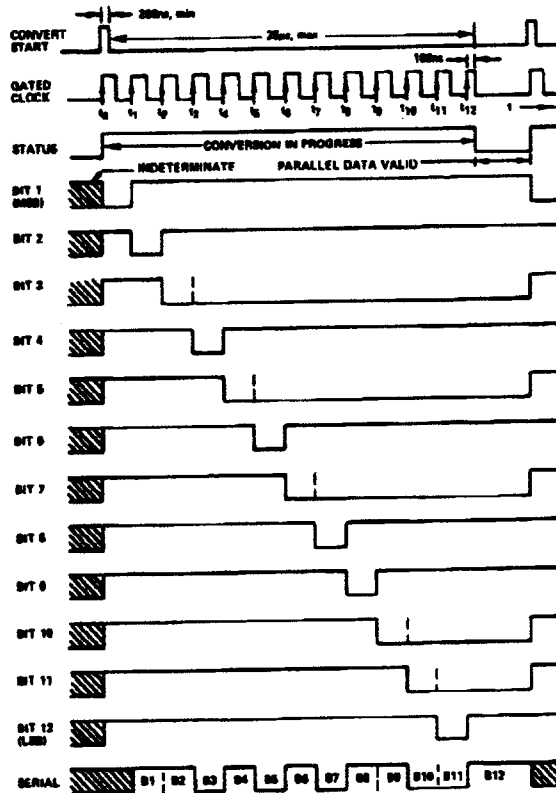

Figure 2. Timing Diagram (Binary Code 110101011001)
The timing diagram is shown in Figure 2. Receipt of a CONVERT START signal sets the STATUS flag, indicating conversion in progress. This, in turn, removes the inhibit applied to the gated clock, permitting it to run through 13 cycles. All SAR parallel bit and STATUS flip-flops are initialized on the leading edge, and the gated clock inhibit signal is removed on the trail-
**Short Cycle Input:** A Short Cycle input (Pin 14) permits the timing cycle shown in Figure 2 to be terminated after any number of desired bits have been converted, permitting somewhat shorter conversion times in applications not requiring full 12-bit resolution. When 12-bit resolution is required, Pin 14 is connected to +5 V (Pin 16). When 10-bit resolution is desired, Pin 14 is connected to Bit 11 output Pin 2. The conversion cycle then terminates, and the STATUS flag resets after the Bit 10 decision ( $t_{10} + 100\ \text{ns}$  in timing diagram of Figure 2). Short cycle pin connections and associated maximum 12-, 10- and 8-bit conversion times are summarized in Table III.
Serial data coding is binary for unipolar input ranges and offset binary for bipolar input ranges. Serial output is by bit (MSB first, LSB last) in NRZ (nonreturn-to-zero) format. Serial and parallel data outputs change state on positive-going clock edges. Serial data is guaranteed valid on all negative-going clock edges, permitting serial data to be clocked directly into a receiving register on these edges. There are 13 negative-going clock edges in the complete 12-bit conversion cycle, as shown in Figure 2. The first edge shifts an invalid bit into the register, which is shifted out on the 13th negative-going clock edge. All serial data bits will have been correctly transferred and be in the receiving shift register locations at the completion of the conversion period.